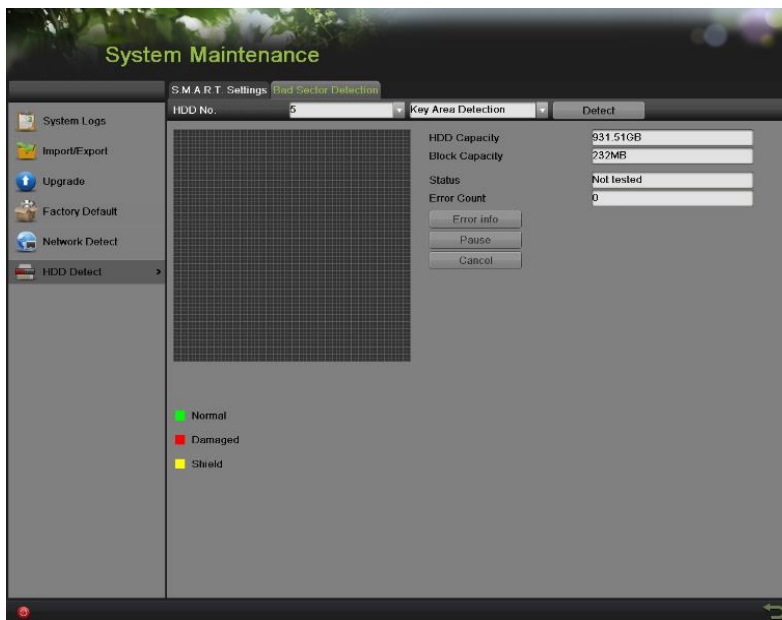

Figure 203 Bad Sector Detection Interface
2. Select the Bad Sector Detection tab, as shown in **Figure 203**.